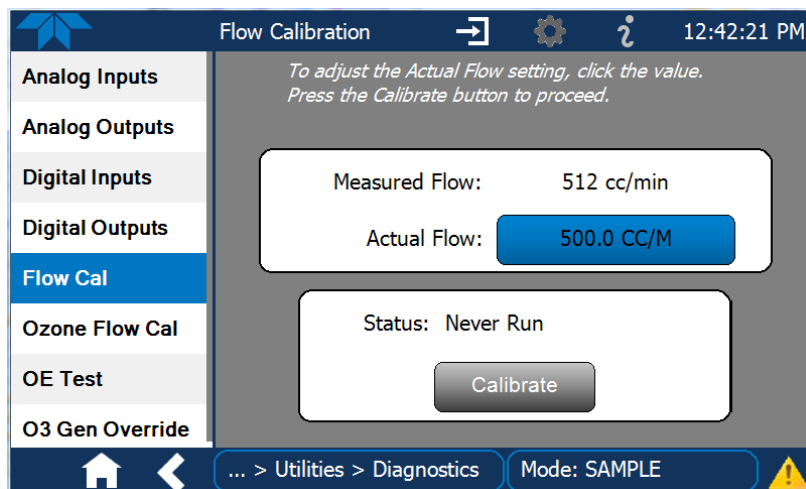

Figure 5-9. Flow Calibration Menu
1. In the Utilities>Diagnostics>Flow Cal menu (Figure 5-9), edit the Actual Flow value by inputting the reading from the external flow meter obtained in the corresponding check of the flow to be calibrated.